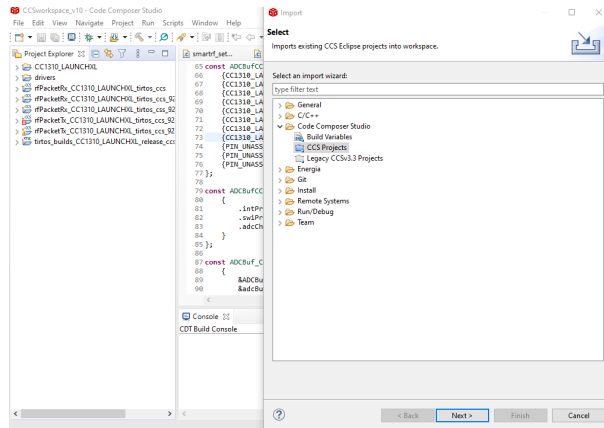

Figure 4: Importing the Project Files
2. Import the transmit or receive CC1310 project files into CCS as shown in Figure 4.